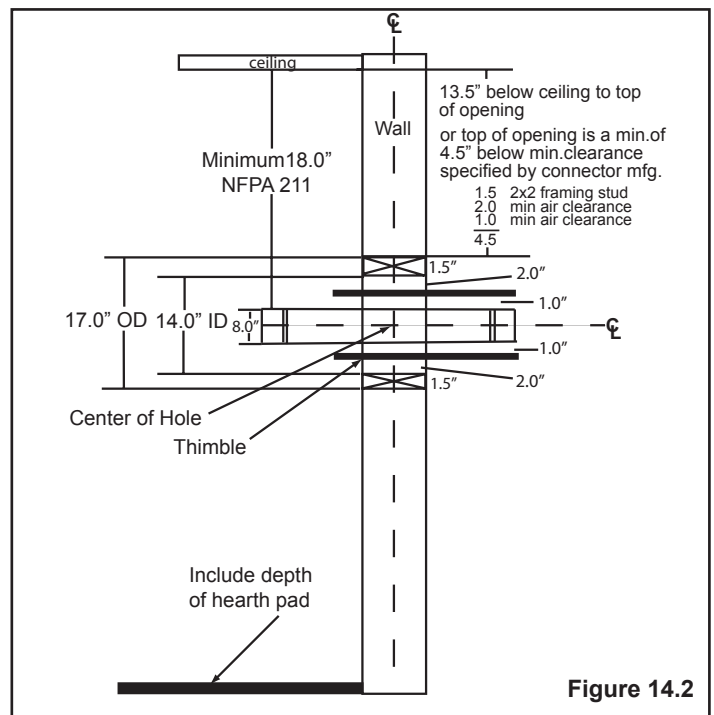

Figure 14.2
- Top of wall opening is a minimum of 13-1/2 inches (343mm) from ceiling or 4-1/2 inches (114mm) below minimum clearance specified by chimney connector manufacturer. NFPA 211 minimum vertical clearance of 18 inches (457mm) from chimney connector and ceiling or minimum recommended by chimney connector manufacturer. **Figure 14.2**
1. Open inside wall at proper height for the chimney connector to enter the masonry chimney. **Figure 14.2**
3. Construct a 17 inch x 17 inch (432mm x 432mm) outside dimension frame from 2 x 2 framing lumber to fit into wall opening. Inside opening of frame should be no less than 14 inch x 14 inch (356mm x 356mm). **Figure 14.2**